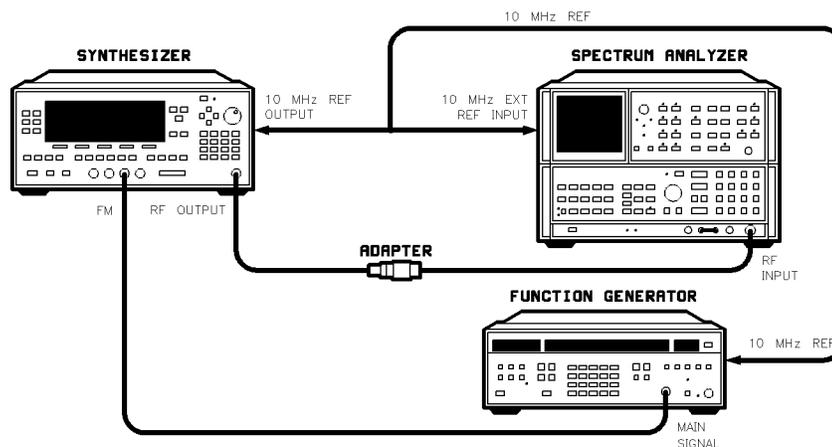

Figure 2-28. FM Accuracy Test Setup
1. Connect the equipment as shown in Figure 2-28. Preset all instruments and let them warm up for at least one hour.